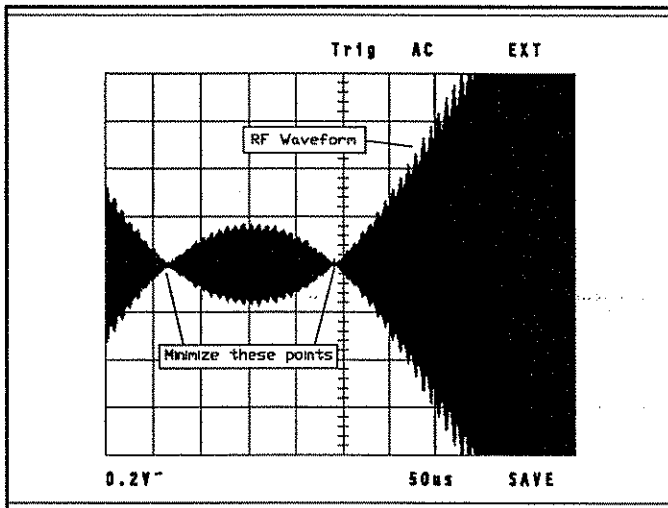

Figure 5-3.
- d. Input 120% L+R audio modulation. With the oscilloscope, observe the waveform at TP6 and adjust R197, the quadrature suppression pot, until the envelope crossover points are sharpest. See Figure 5-3.